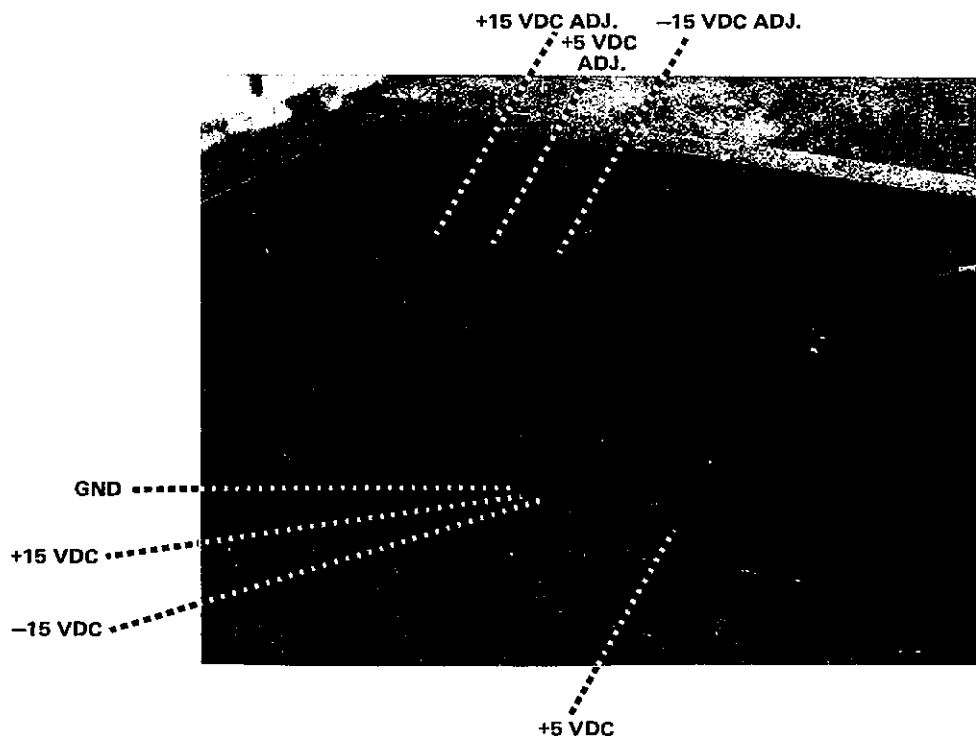
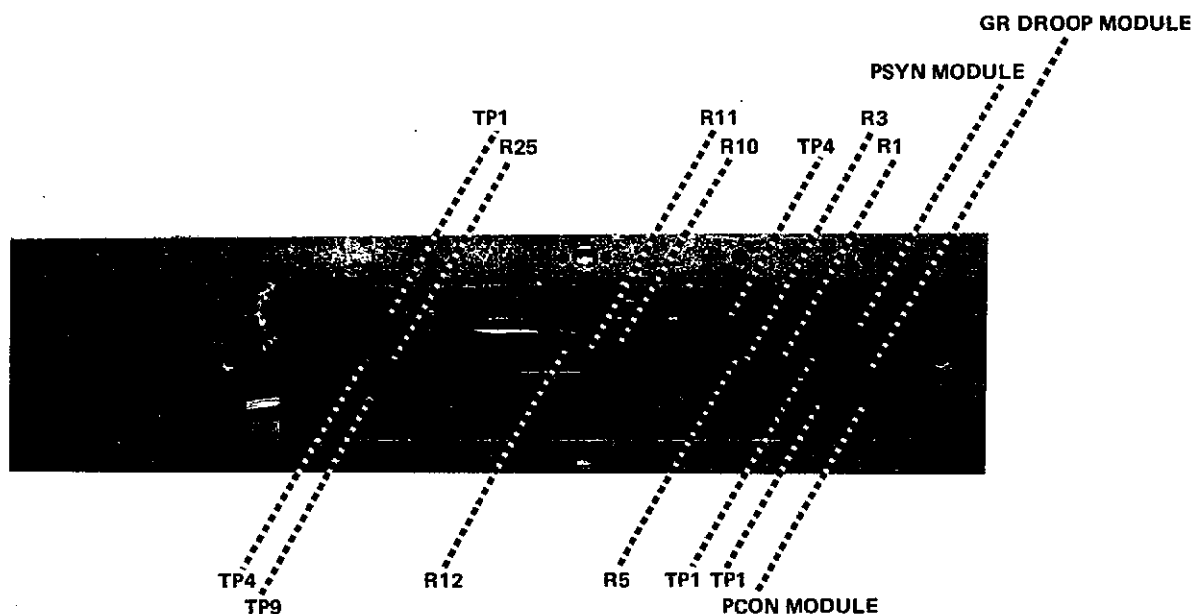
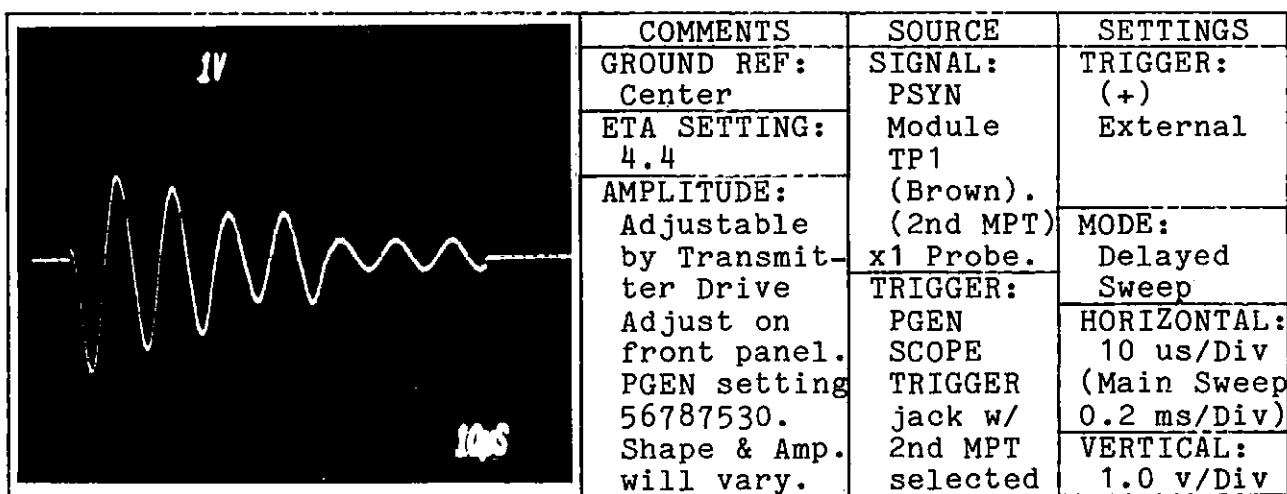

Figure 5.32. Voltage Test Point and Adjustment Locations of the PGEN Power Supply
Figure 5.33. Test Point and Potentiometer Locations of the PGEN Modules
Figure 5.34. Transmitter Drive Waveform (2nd MPT)
5.3.2.3 Pulse Generator. Figure 5.32 shows the voltage test and adjustment points of the power supply in the PGEN. Figure 5.33 shows the locations of the test points of the modules of the PGEN. Figure 5.33 also shows the location of various potentiometers of the W0678-19B/GR DROOP module. Figures 5.34 through 5.47 show the waveforms of the various test points of the PGEN modules. All waveforms are shown with the timers configured for a secondary station.